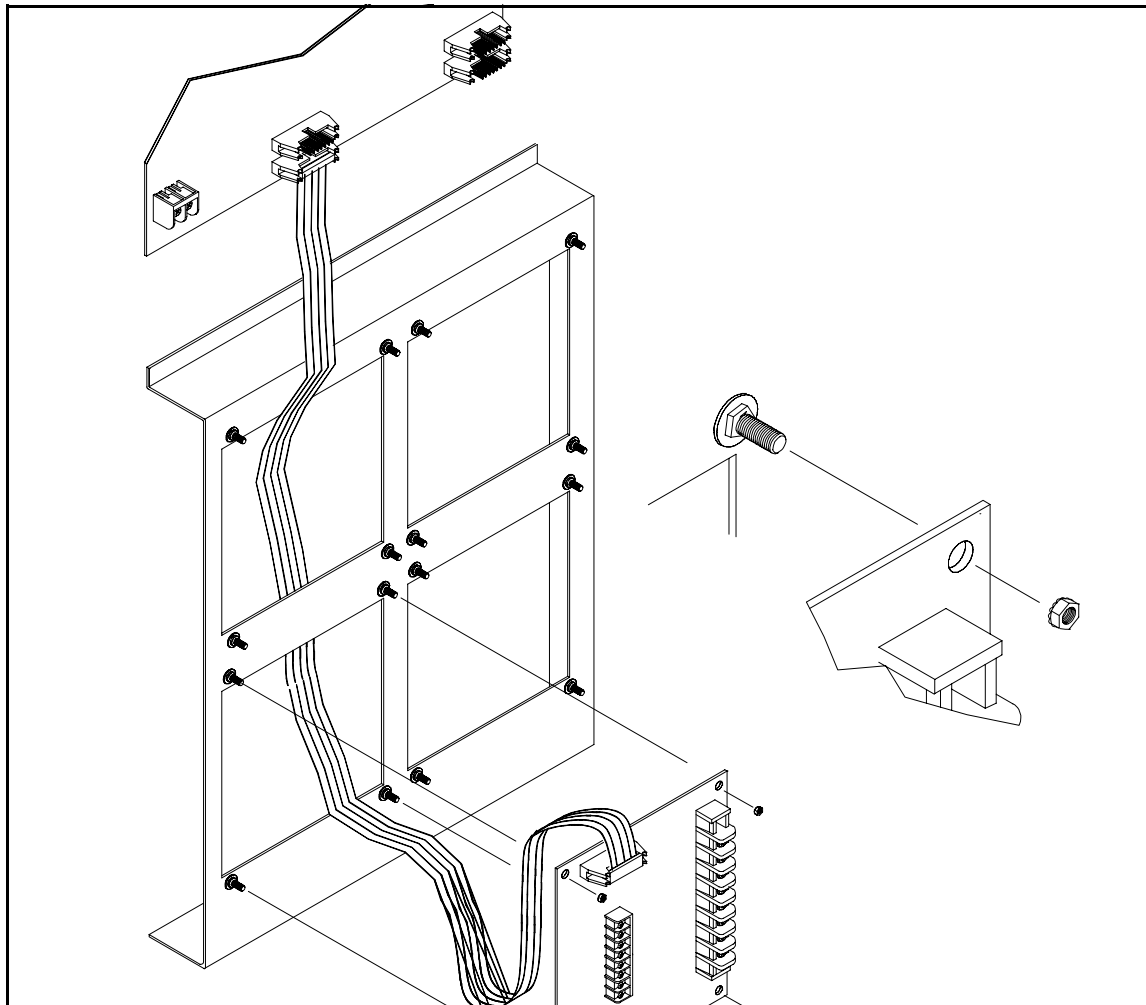

Figure 2 - Relay Board Installation
This section is for *outdoor* PCT installations only. Systems with DIV.2 FITs must have *indoor* PCTs. See Figure 2 below.
1. Starting with the bottom boards, place the boards on the mounting studs and secure with the four nuts provided (see Figure 2).